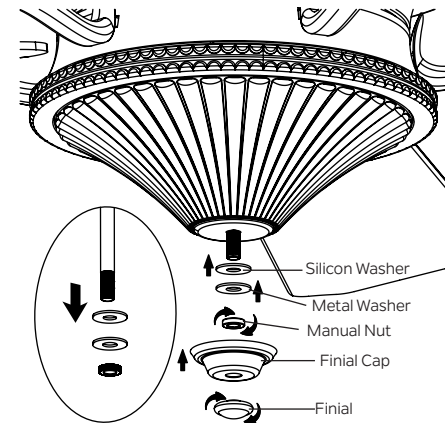

Fig. 25
Step 2. Remove and retain the manual nut, metal washer and silicone washer from the threaded rod on the light kit. (Fig. 25)
Step 3. Lift the glass shade up to the light kit, allowing the threaded rod to go through the center hole in the bottom of the glass shade. Place the silicon washer and metal washer over the threaded rod, then screw the manual nut onto the threaded rod until tight. DO NOT OVER-TIGHTEN. (Fig. 25)
Step 4. Install the finial cap and finial onto the threaded rod and tighten securely. (Fig. 25)